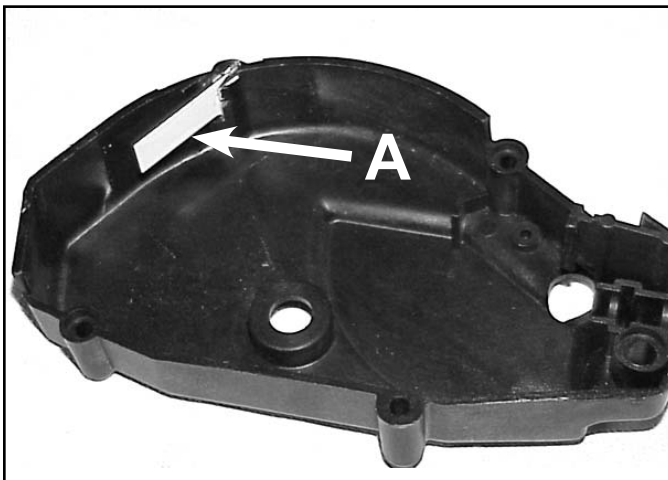

Fig 159
9. Assemble the right control housing by installing the leaf spring and pin to retain the leaf spring (Fig. 159).